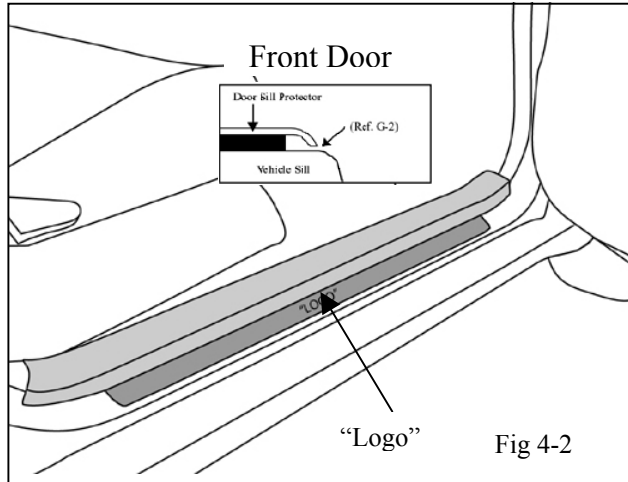
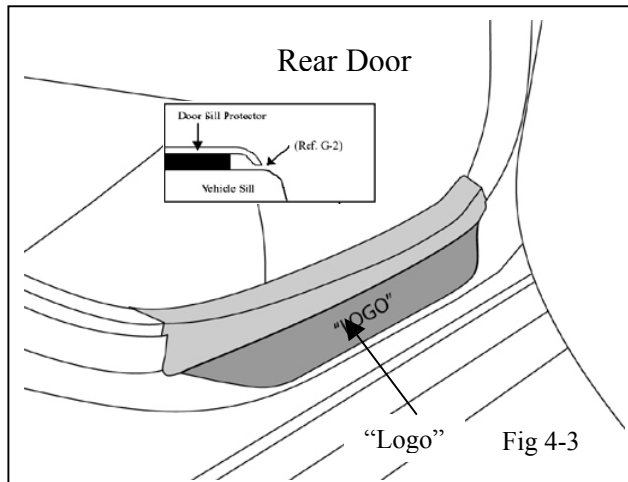

Fig 4-2
Fig 4-3
- (d) Front / Rear - The vehicle name "Logo" must be right reading from outside the vehicle. (Fig. 4-2) (Fig. 4-3)
- (1) If necessary, the part can still be repositioned at this time.